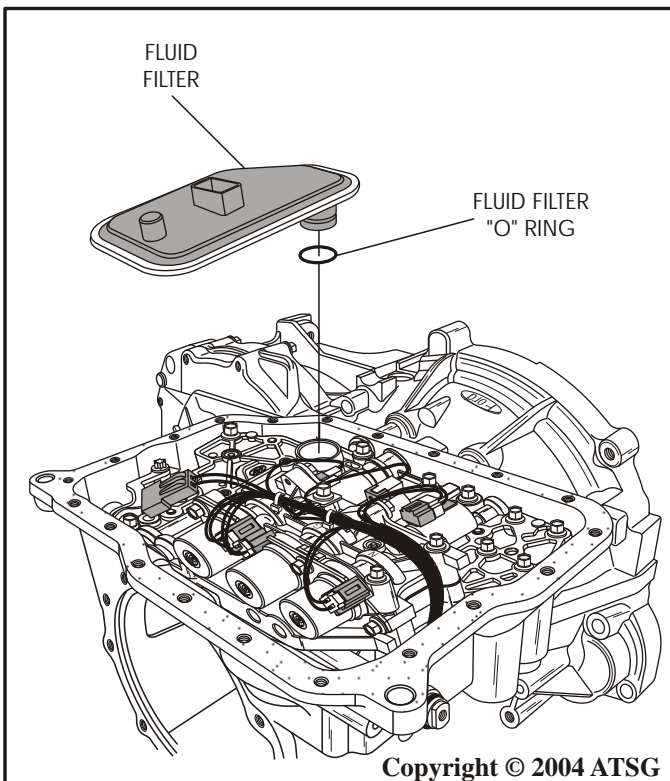

Figure 162
19. Install a new "O" ring onto the new filter, as shown in Figure 162, and lubricate with small amount of Trans-Jel®.
20. Install the fluid filter assembly into the bore of the valve body, as shown in Figure 162.